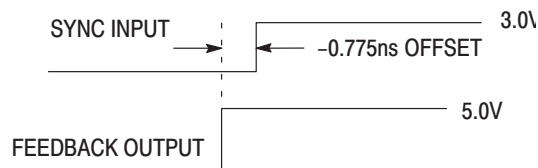

Figure 2. Depiction of the Fixed SYNC to Feedback Offset (t_{PD}) Which is Present When a 1MΩ Resistor is Tied to V_{CC} or Ground
4. A 1MΩ resistor tied to either Analog V_{CC} or Analog GND as shown in Figure 2 is required to ensure no jitter is present on the MC88915T outputs. This technique causes a phase offset between the SYNC input and the output connected to the FEEDBACK input, measured at the input pins. The t_{PD} spec describes how this offset varies with process, temperature, and voltage. The specs were arrived at by